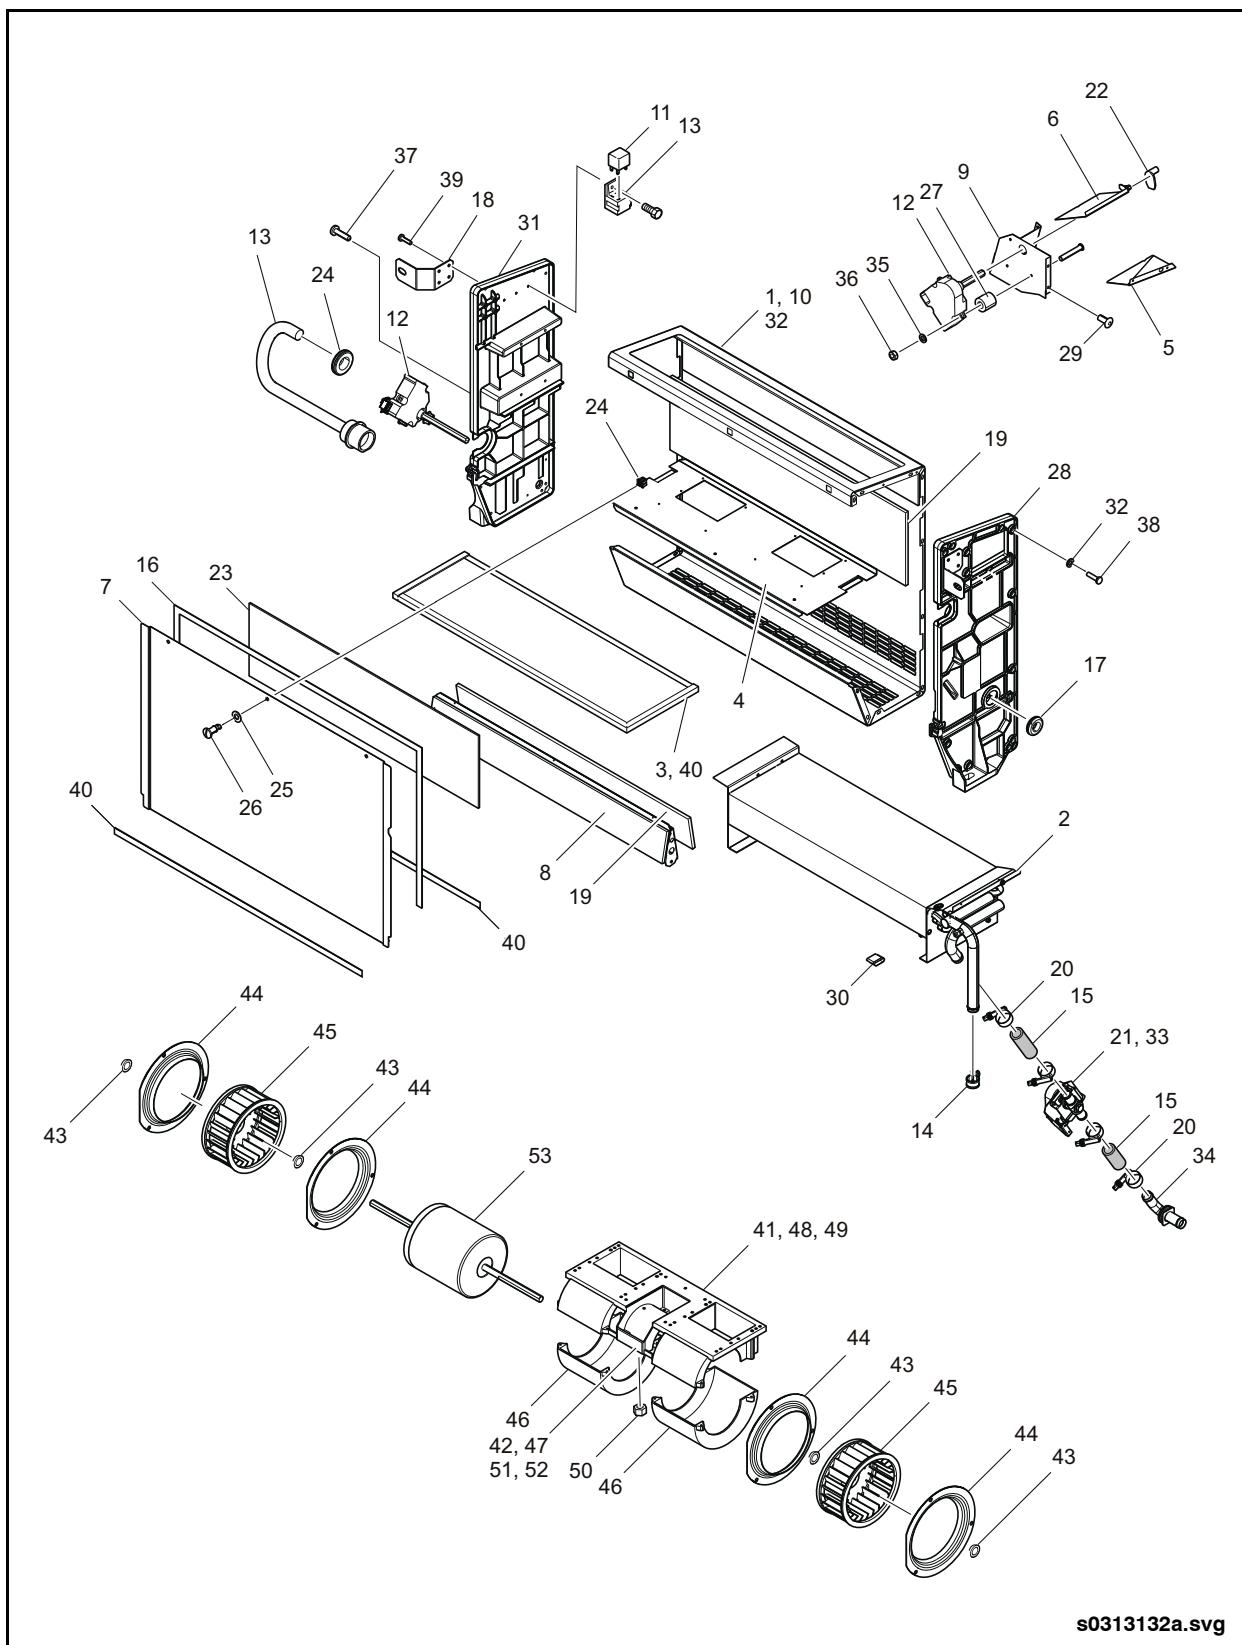

Fig. 10-7: Heater/Defroster Assembly
2. Open front defroster access door and remove defroster access plate. See "Fig. 10-7: Heater/Defroster Assembly" on page 22.